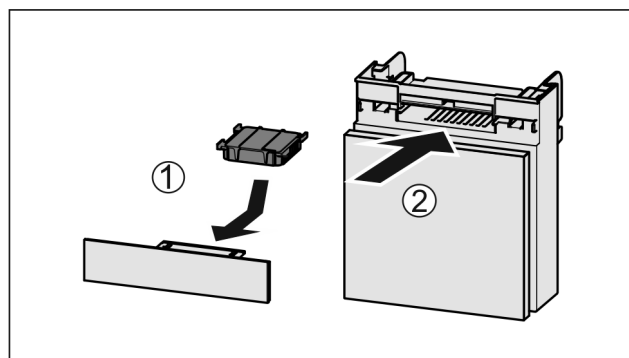

Fig. 119
- Insert the carbon filter as shown in the diagram Fig. 119 (1).
- ▶ Push the compartment in *Fig. 119 (2)*.